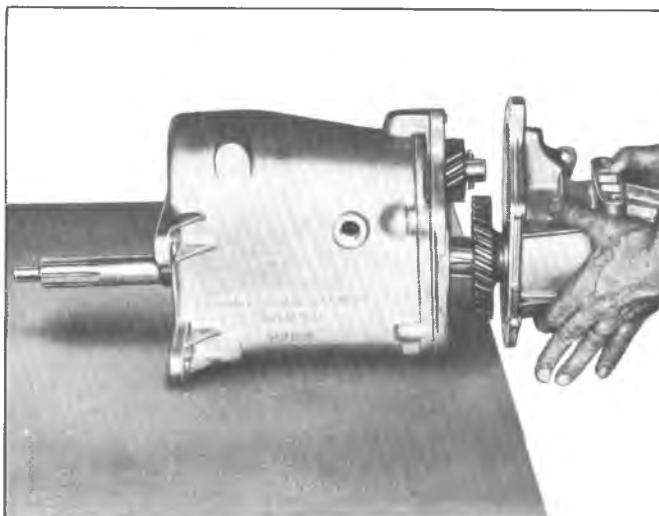

Fig. 19B-Installing Case Extension
18. Pull reverse shifter shaft to left side of extension and rotate shaft to bring reverse shift fork forward in extension (reverse detent position). Start the extension onto the transmission case (fig. 19B), while slowly pushing in on the shifter shaft to engage the shift fork with the reverse gear shift